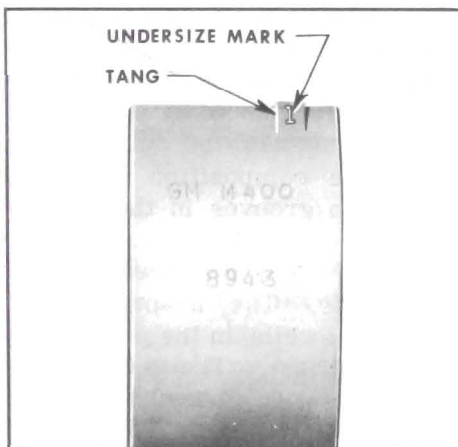

Figure 2-38—Location of Undersize Mark on Bearing Shell
7. If a new bearing is being selected, try a standard size, then each undersize bearing in turn until one is found that is within the specified limits when checked for clearance with Plastigage. NOTE: Each undersize bearing shell has a number stamped on outer surface on or near the tang to indicate amount of undersize. See Figure 2-38.
and check again with Plastigage. NOTE: Each undersize shell has a number stamped on outer surface on or near the tang to indicate amount of undersize. See Figure 2-38.
7. Remove compression rings using Ring Expander KMO-232. Then remove oil ring by removing the two rails, spacer, and expander which are separate pieces in each piston third groove. See Figure 2-38.